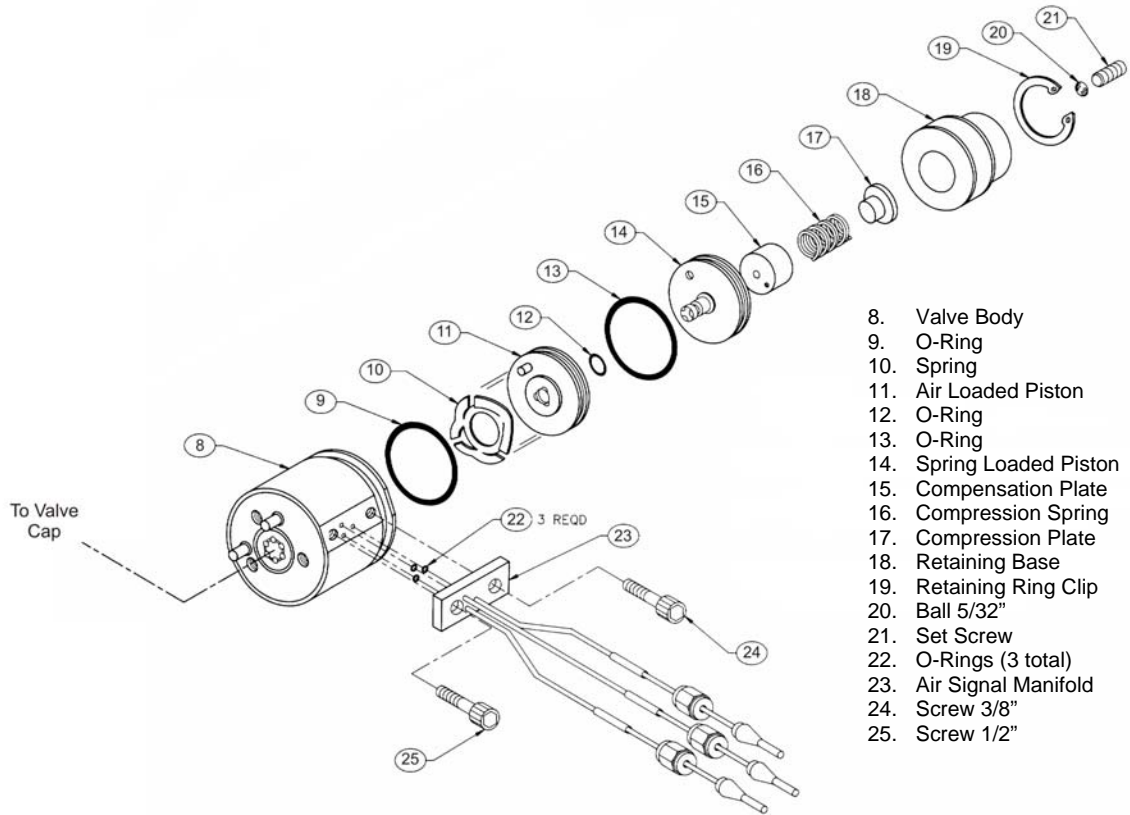

Figure 4-44: Valve Body Exploded View
The following procedures should be followed for performing Maxi-Maintenance on the Model 11 Valve or the Model 11 Low Dead Volume Valve. Maxi-Maintenance procedures include the Mini-Maintenance procedures in addition to the disassembly, inspection and assembly of the valve plunger presented in this section. Refer to Figure 4-44.
4.	Remove air signal manifold (23) by removing the two screws (24&25) that secure it to the valve body (8). After manifold is detached, inspect the three o-rings (22) and replace if necessary. If the o-rings are undamaged, then set them aside (on a clean surface) for installation later.
5.	Use the plier tool supplied with the repair kit to remove the retaining ring clip (19).
6.	From bottom of valve body, remove retaining base (18), compression plate (17), compression spring (16) and compensation plate (15) from bottom of valve body (8). Refer to Figure 4-44.
7.	Use the plier tool supplied with the repair kit to remove spring-loaded piston (14) from valve body (8). Insert the tips of the plier nose into the holes in the underside of the piston and pull slowly.
8.	Remove air-loaded piston (11) from valve body (8)
9.	Using care to catch plungers (7), as presented in step 2, remove any stuck plunger using retaining ring pliers.
36.	Prepare to to install the manifold (23) by cleaning the flat surface on the side of the valve body (8) and then installing the three small O-rings (22) into the manifold (23).
37.	Align and install manifold (23) onto valve body (26) with two 8-32 screws (24 and 25). The shorter screw is installed in the top. Attach the manifold so that inlet holes on the manifold align with inlet holes on the valve body. Refer to Figure 4-44.